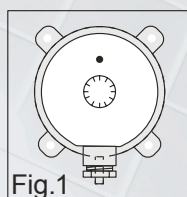

Fig.1
1. Mount the airflow switch on a flat surface ideally in a clean dry environment, but can be mounted externally. Mount the switch in vertical plane so that the nozzles are pointing down (as shown in fig.1).